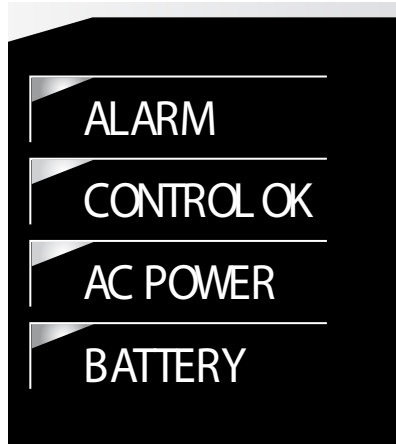

Figure 34. Control OK and AC POWER LEDs
4. Verify the Control OK LED is illuminated on the control operator panel. The AC POWER LED indicates the presence of AC power (Figure 34).
- During a battery test a 5Ω, 55 watt resistor is placed across the battery terminals for approximately 5 seconds. The Form 4D control measures the battery voltage, if the voltage drops below 22.8 VDC the BATTERY LED illuminates (Figure 34) and a battery alarm is issued, if configured, at the end of the test.